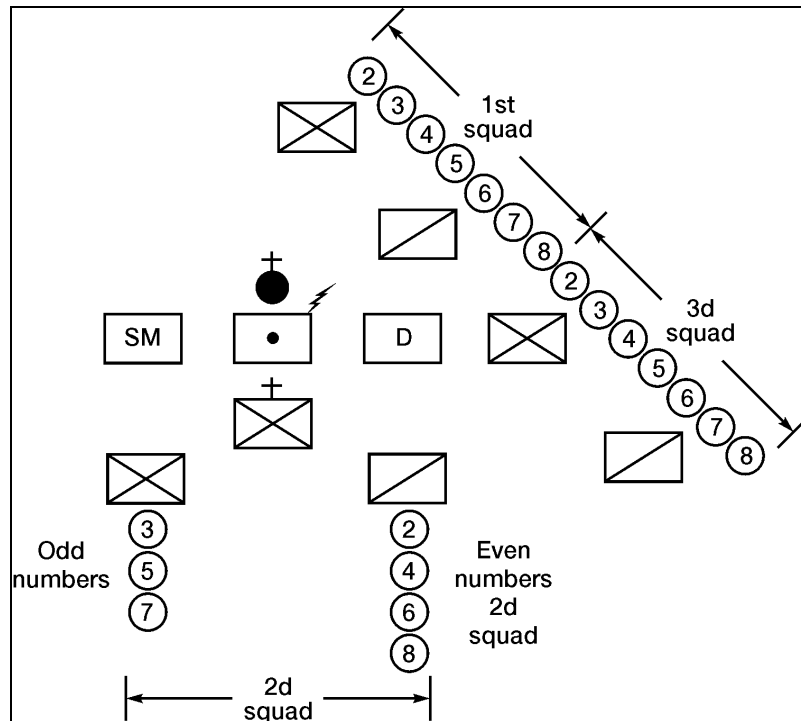

Figure 191-379-5400-7. Platoon Echelon, Right with One Squad in General Support
6. Form the platoon in a platoon echelon, right (or left) with one support squad in general support the same as with the line (figure 191-379-5400-7).